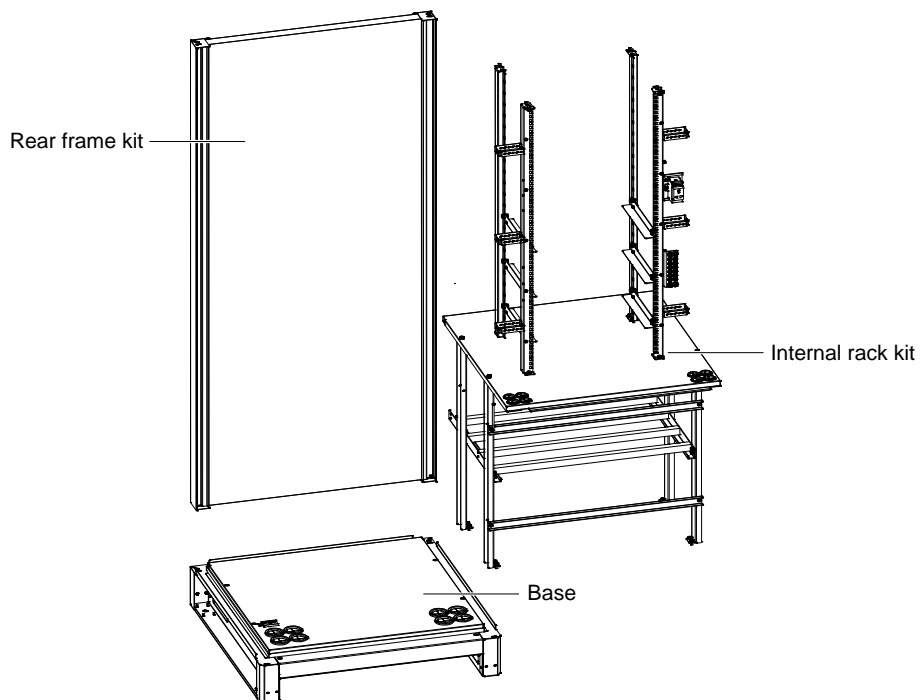

Figure 2-12 Disassembling rear frame and internal rack kit
8. Disassemble the rear frame kit and internal rack kit, as shown in Figure 2-12.